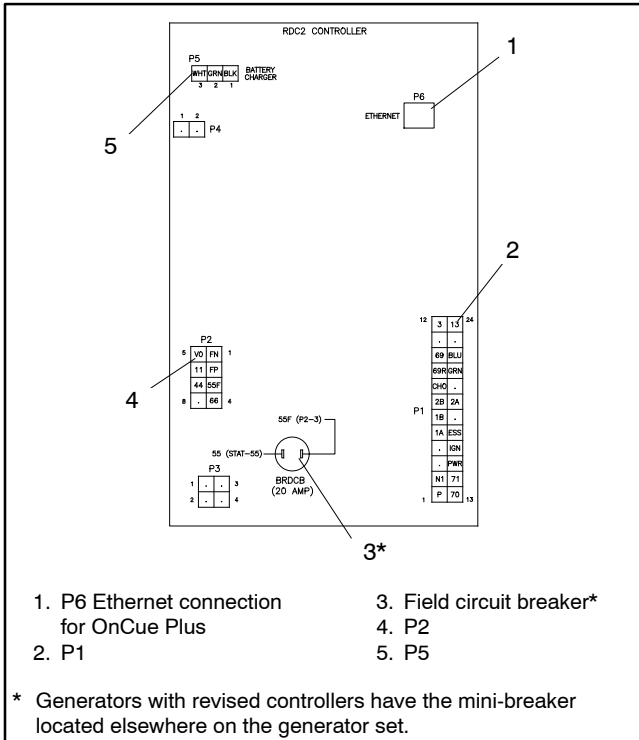

Figure 17 Controller Connections
8. Note the connections on the back of the controller, and then disconnect all harnesses and leads from the controller. See Figure 17 or the wiring diagram in the generator installation manual.
10. Reconnect all harnesses to the new controller assembly. See Figure 17 or the wiring diagram in the generator installation manual.
11. Install the controller onto the junction box using the two (2) screws removed in step 7.